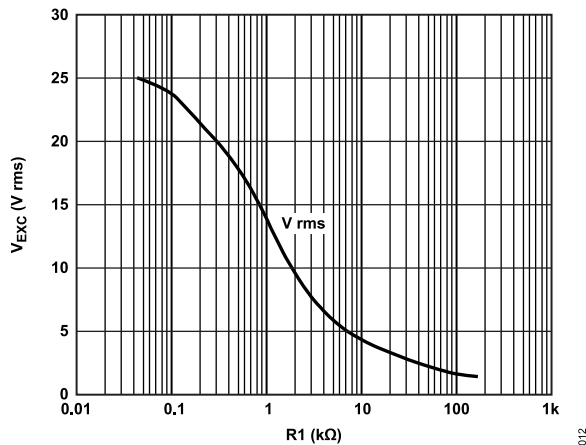

Figure 12. Excitation Voltage  $V_{EXC}$  vs. R1
- Referring to Figure 12, for  $V_S = \pm 15 \text{ V}$ , select the value of the amplitude determining component R1 as shown by the curve in Figure 12.